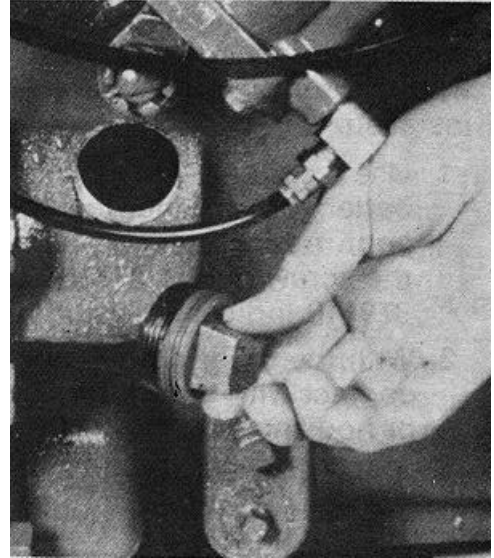

Fig. 20
1. Remove the filler plug from the transmission and add recommended transmission lubricant to the level prescribed by the transmission or truck manufacturer. (See Fig. 20.)
NOTE: Anticipate slight increase in P. T. O. noise level as oil thins out at operating temperatures. Fig. 20